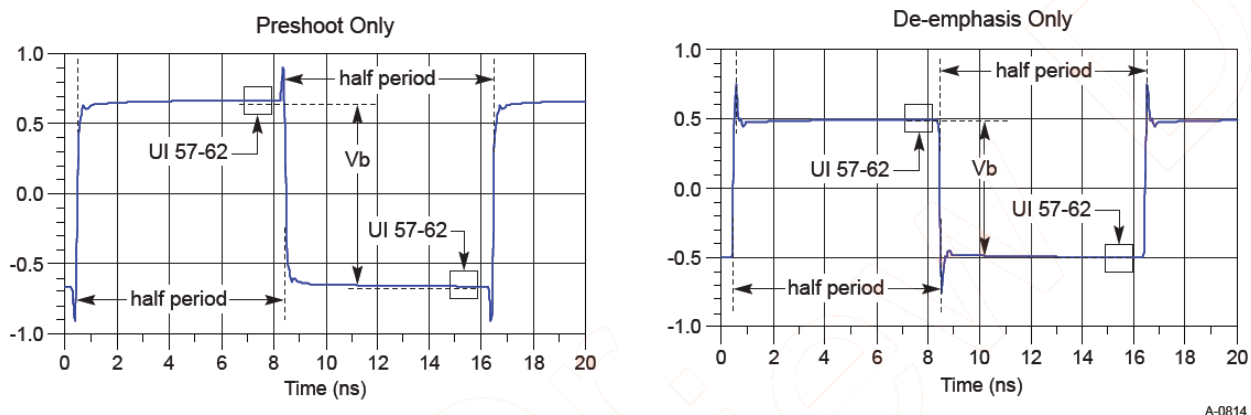

Figure 108 Waveform measurement points for preshoot and de-emphasis
8.0 GT/s, 16.0 GT/s and 32.0 GT/s PCIe signaling must support the full range of presets given in Table 8-1 (PCIe Base Specification Revision 5.0). Presets are defined in terms of ratios, relating the pre-cursor and post-cursor equalization voltages. The pre-cursor (V_c) is referred to as pre-shoot, while the post-cursor (V_b) is referred to as de-emphasis. This convention permits the specification to retain the existing 2.5 GT/s and 5.0 GT/s definitions for Tx equalization, where only de-emphasis is defined, and it allows preshoot and de-emphasis to be defined such that each is independent of the other. The tolerances in Table 8-1 (PCIe Base Specification Revision 5) also apply to 2.5 and 5.0 GT/s de-emphasis. The maximum swing, V_d , is also shown to illustrate that, when both c_{+1} and c_{-1} are nonzero, the swing of V_a does not reach the maximum as defined by V_d . The high frequency nature of PCIe signaling makes measurement of single UI pulse heights impractical. Consequently all amplitude measurements are made with low frequency waveforms as shown in Figure 108.